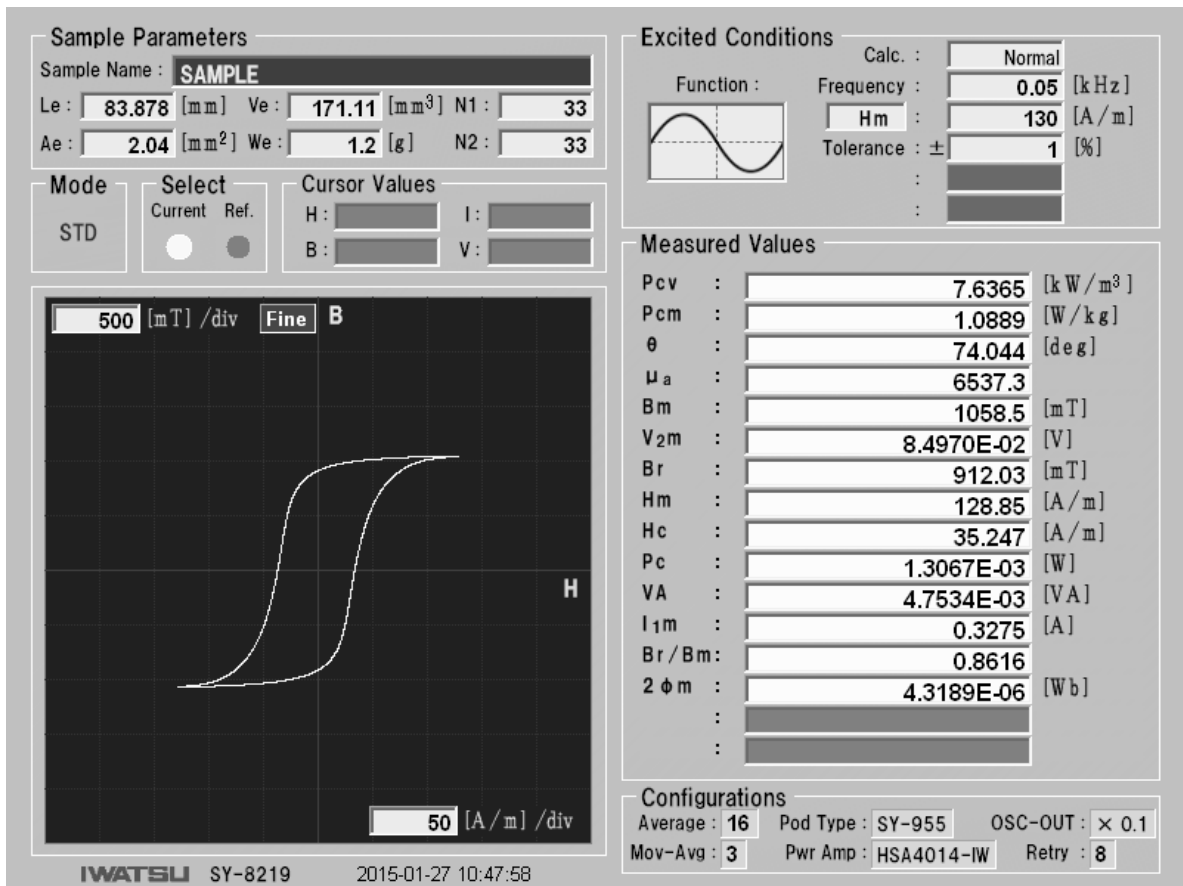
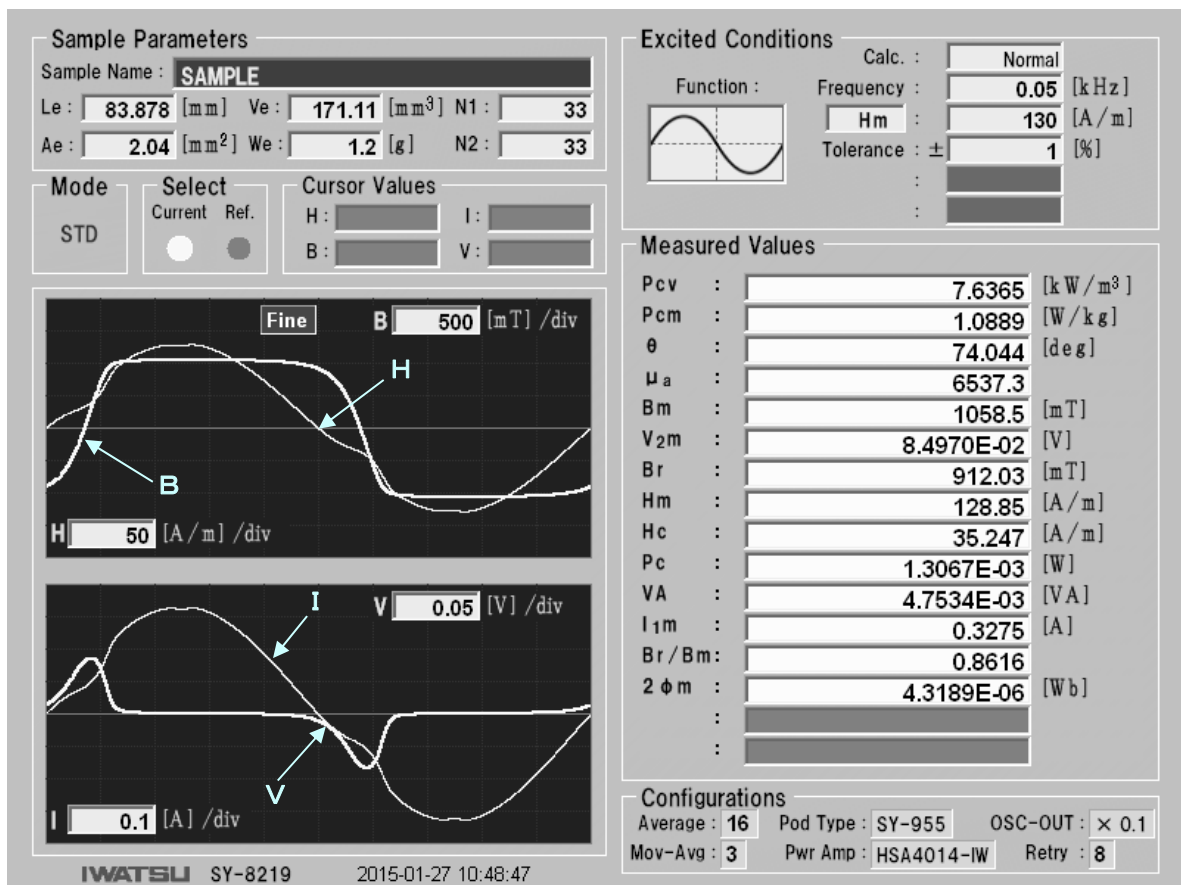

Fig.6-4 Measurement result
Fig.6-5 Time axis graph
- When the measurement finishes normally, the message "Measuring !" disappears and the measurement result is displayed (see Fig.6-4).
- If  is pressed when the measurement result shown in Fig.6-4 is displayed, the displayed graph changes from B-H graph to the time axis graph with its horizontal axis used as time shown in Fig.6-5